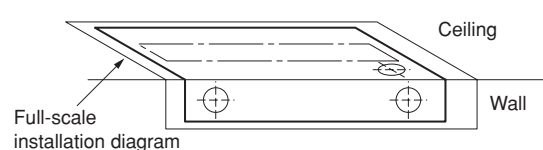

Fig. 3-91
- (1) Place the full-scale diagram (supplied) on the ceiling at the spot where you want to install the indoor unit. Use a pencil to mark the drill holes. (Fig. 3-91).